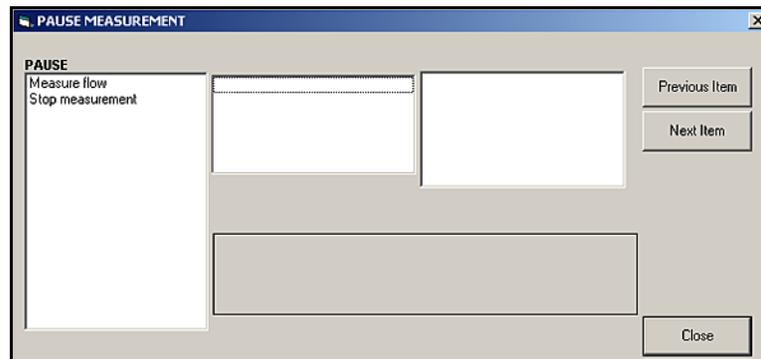

Figure 21: The Pause Measurement Window
2. Expand the *Edit Functions* option, and double-click on the *Pause Measurement* entry. A window similar to *Figure 21* below opens.